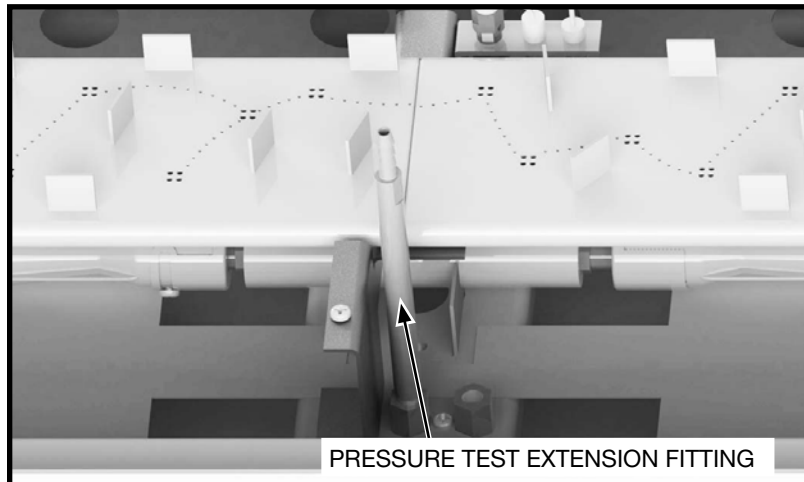

Figure 84: Pressure test extension fitting.
3. Thread the extension test fitting into the open port (Figure 84).